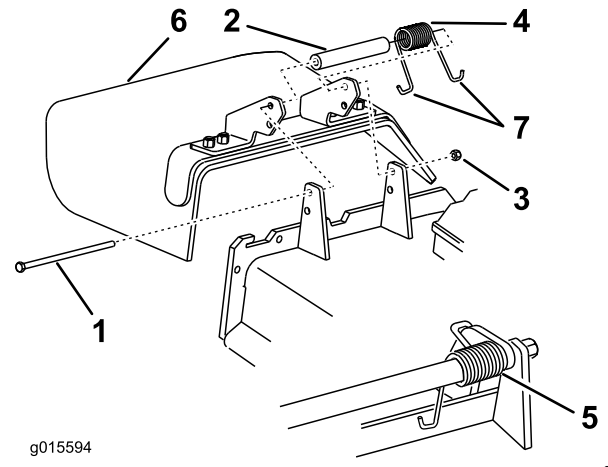

Figure 126
Note: Make sure that 1 J-hook end of the spring is installed behind the deck edge before installing the bolt as shown in Figure 126.
6. Place 1 J-hook end of the spring around the grass deflector (Figure 126).
1. Remove the locknut, bolt, spring, and spacer holding the deflector to the pivot brackets (Figure 126).
2. Remove the damaged or worn grass deflector (Figure 126).